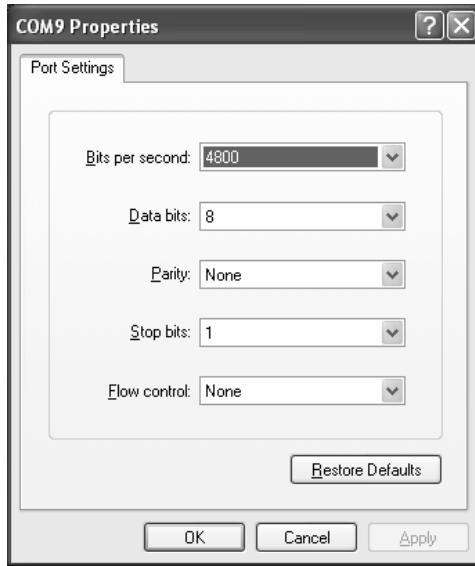

Figure 79. COM 1 Properties window
6. Set the bits-per-second to 4800 if connected to a Converter or 38400 if connected to a Combiner (see Figure 79). Using the drop-down menus, change the Data bits to eight, Parity to None, Stop bits to one, and Flow control to None, as shown below. Click OK.